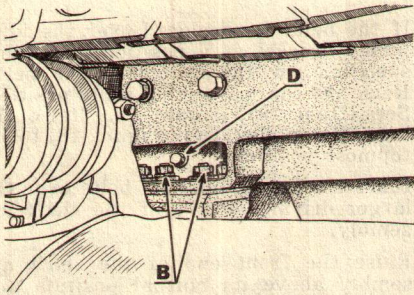

Figure 16 Frame Rear Support
Holes for capscrews (B), Figure 16, are slotted. Use a plain washer next to the head of four $\frac{7}{8}$ "x $2\frac{3}{4}$ " capscrews and a plain washer with lockwasher underneath each nut. Fasten the main frame to the support brackets, insert the capscrews through the bottom of mounting brackets and place nuts as shown position (B), Figure 16.